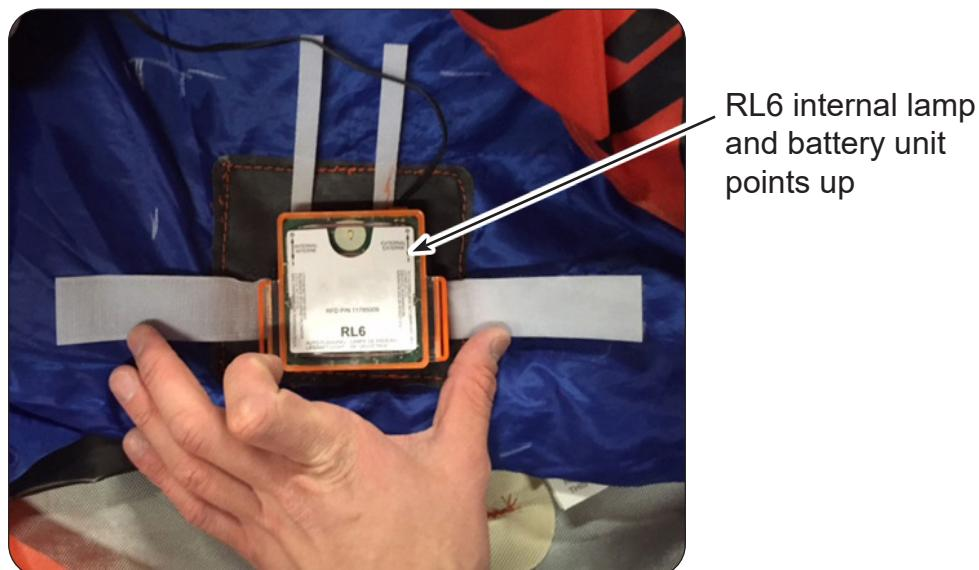

FIGURE 807B-6
- 2.11.3 Attach the RL6 internal lamp and battery unit to the mounting patch. Refer to **FIGURE 807B-7**.